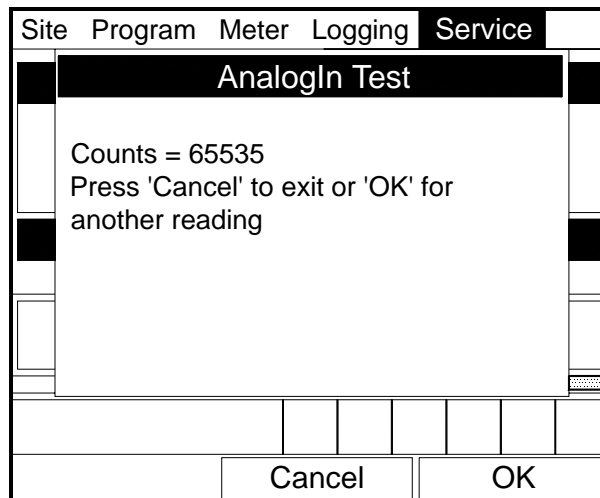

Figure 3-4: AnalogIn Test Window
To test an Analog Input, you must connect a current source to the analog input. Proceeding as above, select the Test AnalogIn option for the Analog In to be tested, and press [ENTER]. The screen appears as in Figure 3-4 below. It displays the analog input current RAW count from the A/D. When the input current changes, you can press [F3] (OK) to update the RAW count or [F2] (Cancel) to exit.